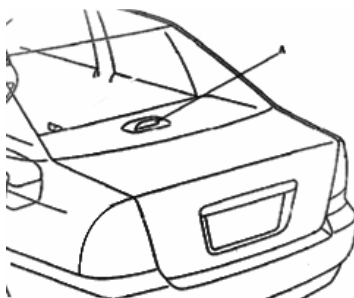

Fig. 4-69
5. High-mounted brake lamp (Fig. 4-69)